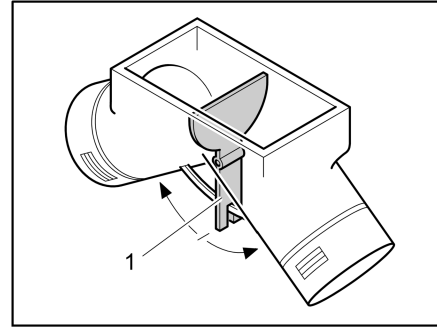

Fig. 115 Circulation fan, adjustment flap in central position
In the central position the warm air is distributed evenly to each warm air outlet. The operating lever (Bild 115,1) for the adjustment flap is located under the base flap in the wardrobe.
- Push the operating lever (Bild 115,1) in the direction of the arrow until the required position has been reached.